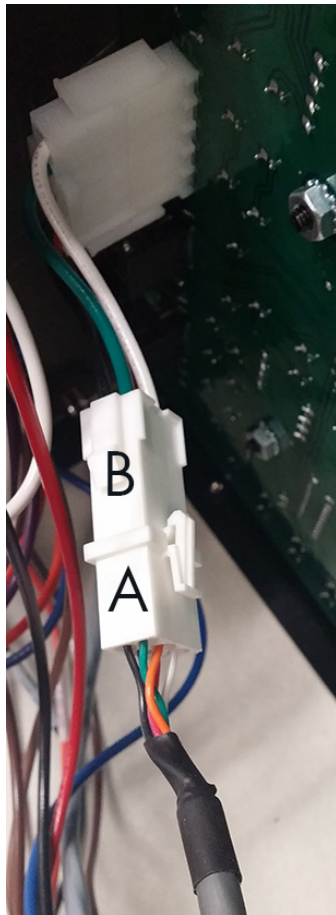

Figure 7: Radio Connection
5. Connect the 6-pin power/signal cable from the radio receiver unit (**A**) into the mating 6-pin radio adapter cable (**B**) connected to the **J2 RADIO JACK** on the left side of the driver printed circuit board (PCB). Refer to **Figure 7**.